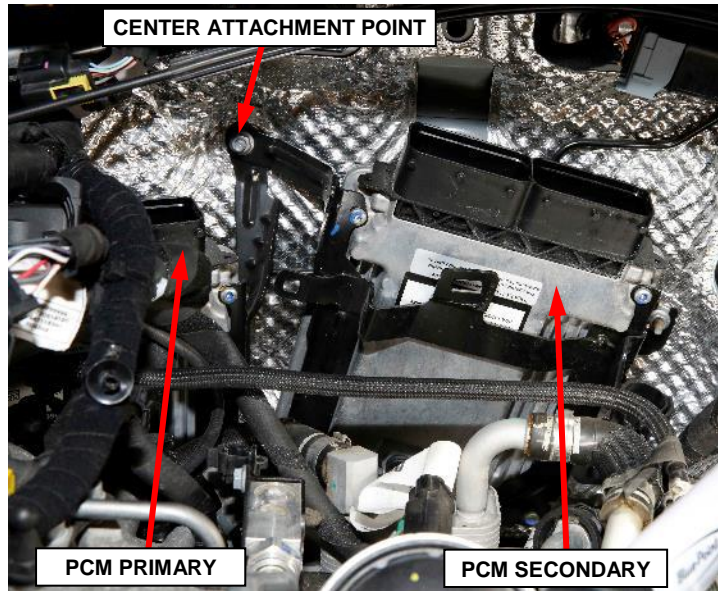

Figure 19 – PCM Bracket Center Attachment
- 44. Remove the nut from the PCM bracket center upper attachment point to the cowl (Figure 19).
7. Install the nut to the PCM bracket center upper attachment point on the cowl (Figure 19).